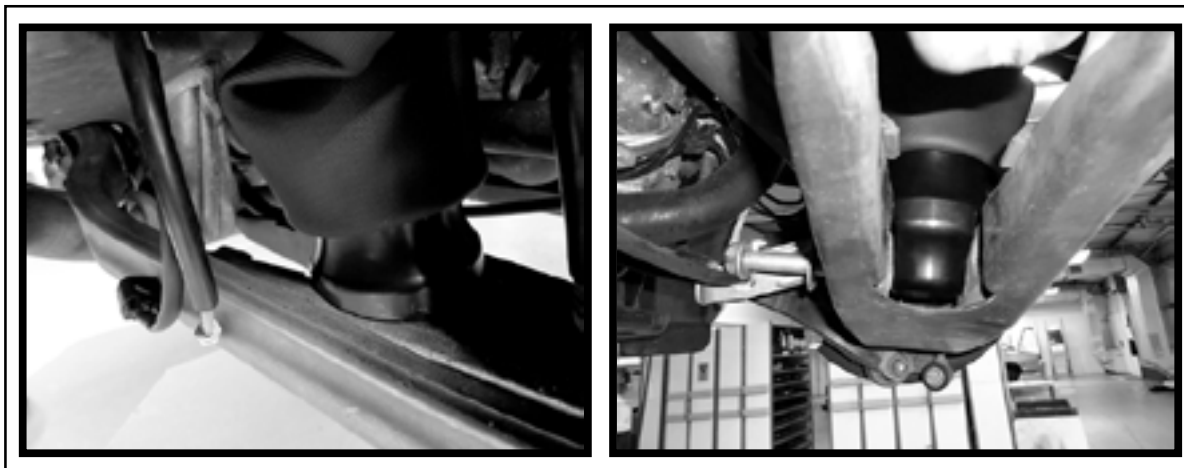

FIGURE 10-36
20.0 LINE UP MOUNT TO LOWER CONTROL ARM. (FIGURE 10-36)